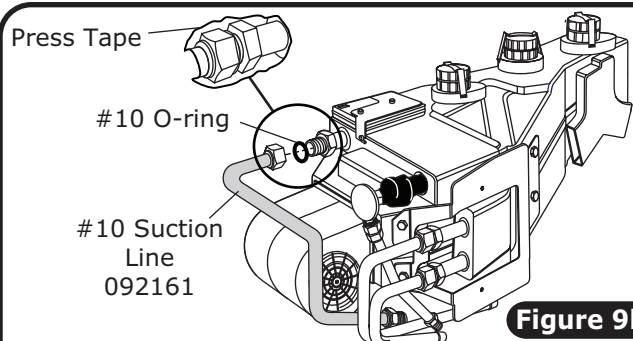

Figure 9b
10. Install #10 suction line as shown in Figure 9b, below. **NOTE: Wrap the #10 fitting connections.**